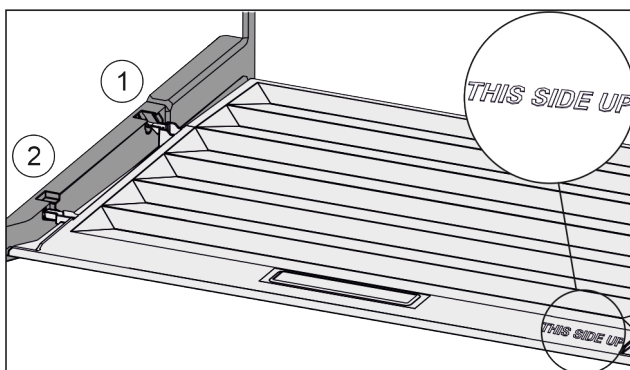

Fig. 118
- ▶ Insert the lip of the cover over the opening of the rear bracket Fig. 118 (1) and click into place Fig. 118 (2).